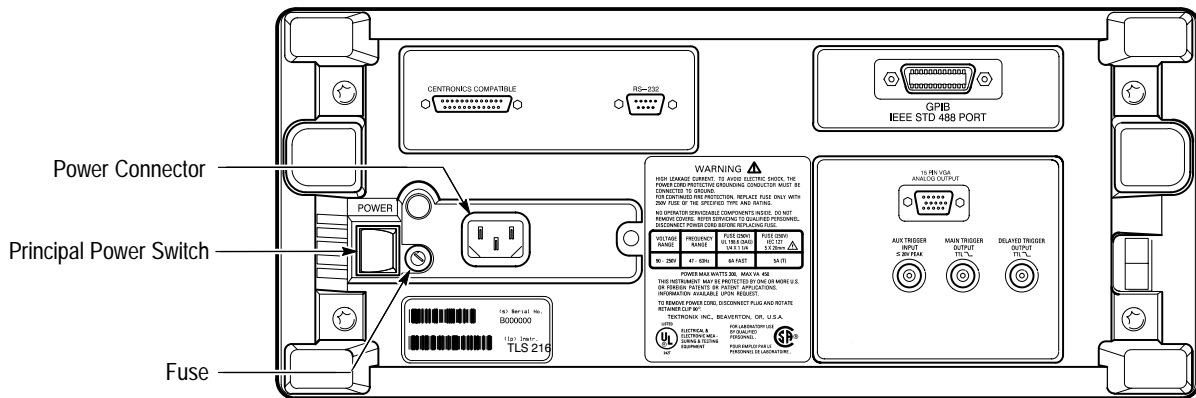

Figure 1-1: Rear Panel Controls Used in Start Up
3. Check the fuse to be sure it is the proper type and rating (stated on rear panel). You can use either of two fuses. (See Figure 1-1 for fuse location.) Each fuse requires its own cap. (See Table 1–1.) The logic scope is shipped with the UL approved fuse installed.
5. Connect the proper power cord from the rear-panel power connector (see Figure 1-1) to the power system.
1. Check that the rear-panel principal power switch is on. (See Figure 1-1.) The principal power switch controls all AC power to the instrument.